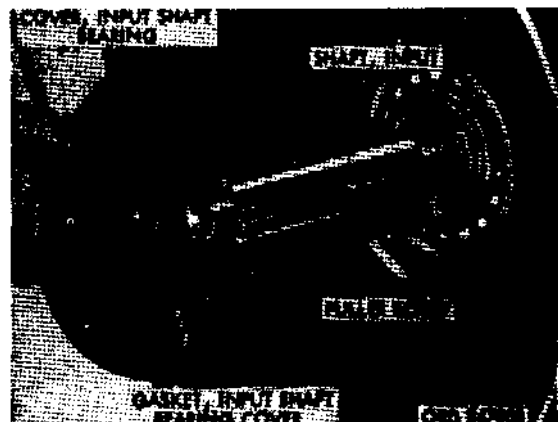

Figure 247. Removing input shaft bearing cover
(1) Input shaft.
- (a) Remove six split lockwasher cap screws securing input shaft bearing cover (fig. 247) to transmission case. Use two cap screws as puller screws in threaded holes to loosen input shaft from case.